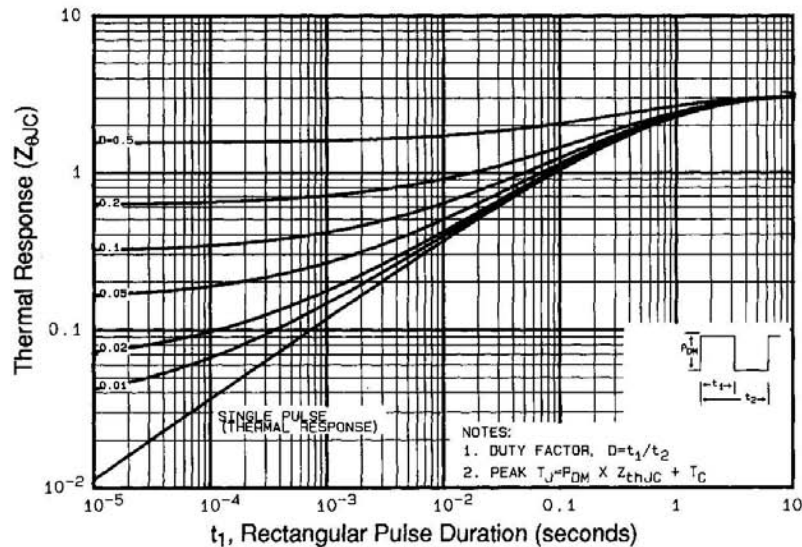

Fig 11. Maximum Effective Transient Thermal Impedance, Junction-to-Case
① Repetitive rating; pulse width limited by max. junction temperature (See Figure 11)
③ $I_{SD} \leq 10A$, $di/dt \leq 120A/\mu s$, $V_{DD} \leq V_{(BR)DSS}$, $T_J \leq 150^\circ\text{C}$
⑤ $t=60s$, $f=60\text{Hz}$